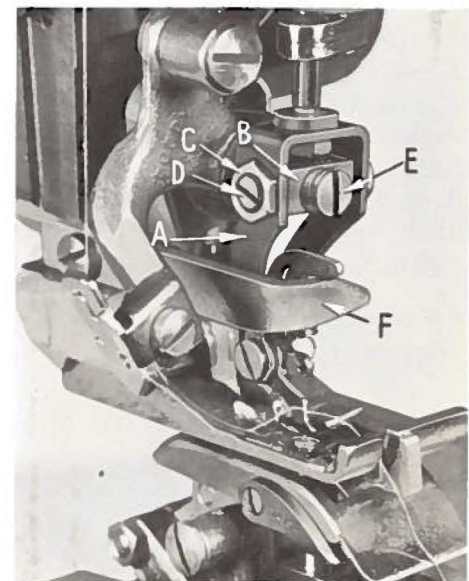
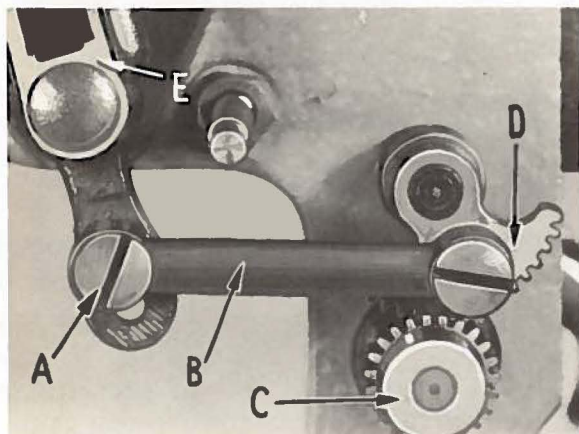

Fig. 8
Fig. 9
Before making any adjustment to the looper spreader mechanism, check for excessive play between the looper frame (A, Fig. 8) and the bearing block (B). If excessive play is encountered, it can be removed by loosening nuts (C) and positioning the cone screws (D) accordingly.
mechanism up or down on both sides of its stroke remove gear cover at back, loosen nut on screw (A, Fig. 9) and slide the link (B) up to raise looper or down to lower it. If the looper spreader mechanism is too close to the needle on one side and too far away on the other loosen the two set screws in gear (C), insert a screwdriver in screw (E, Fig. 8) and turn in the required direction. Turning the screw in a clockwise direction lowers looper on right side of stroke and raises looper on the left side of stroke. Turning screw in a counterclockwise direction acts the reverse. Tighten the set screws.
Looper opener (F, Fig. 8) should be set so that the bottom of the looper spreader point clears the needle by approximately $\frac{1}{32}$ inch when the looper spreader mechanism is in the left hand position and moving to the back. To make this adjustment, remove looper opener from machine and bend in the required direction. Check for clearance between the opener and the looper frame (A). Bend the looper opener as required. Assemble the opener to the machine.